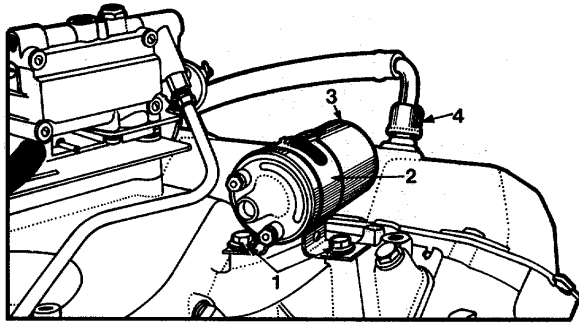

Fig. 30 Coil Removal
- 29. Remove coil and bracket from intake manifold, Figure 30. Also, remove flame arrestor and hose from left cylinder head cover.